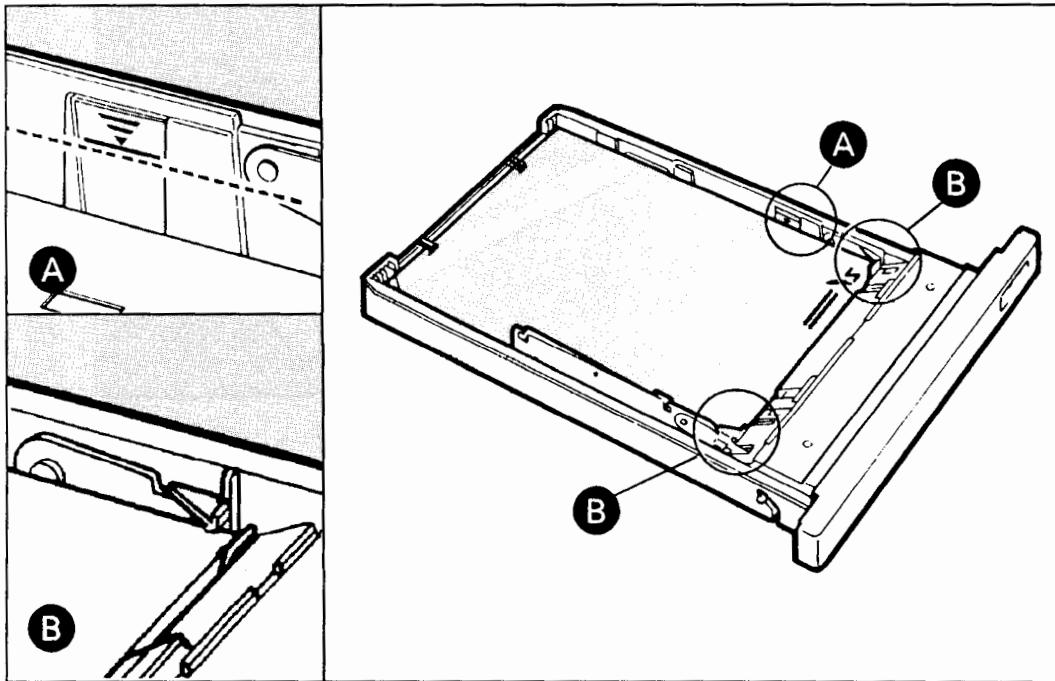

Figure 4-4. Placing Paper Under Metal Clips
4. Press down on the front of the stack to place it under the metal retaining clips at the front of the tray, as shown by ② in figure 4-4. Make sure you have loaded paper only to the arrow limit mark on the tray, as shown by ① in figure 4-4.